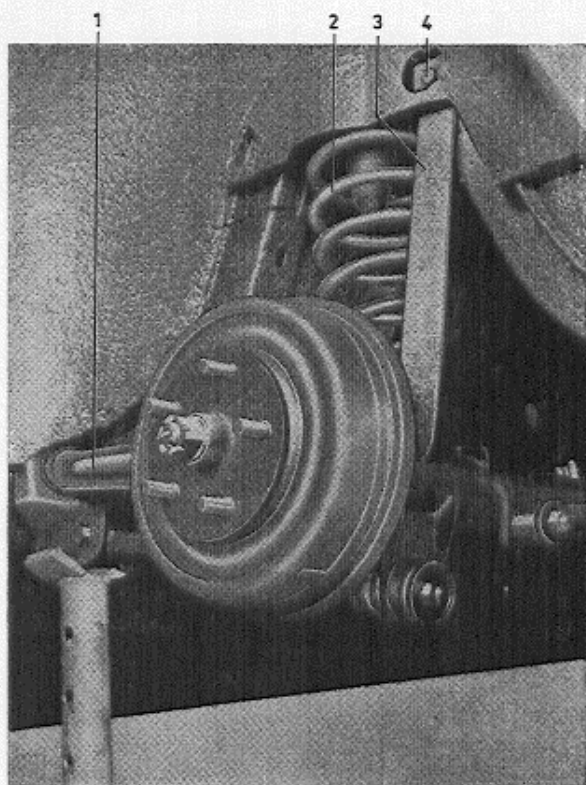
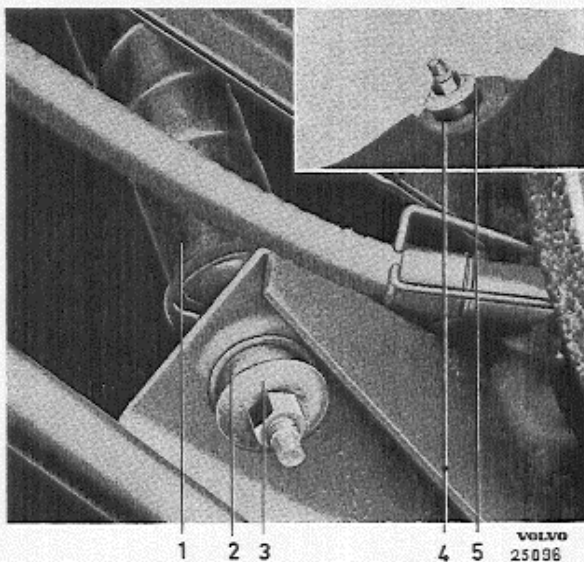

Fig. 3. Rear spring.
Fig. 7. Attachment of rear shock absorber.
4. Loosen the lower shock absorber attachment (Fig. 7) and the upper attachment for the shock absorber band (4, Fig. 3) on both sides.
Shock absorber bands (3, Fig. 3) are fitted between each support arm and the body. These prevent damage to the rear shock absorbers by limiting wheel movement downwards. Wheel movement upwards is limited by rubber buffers.